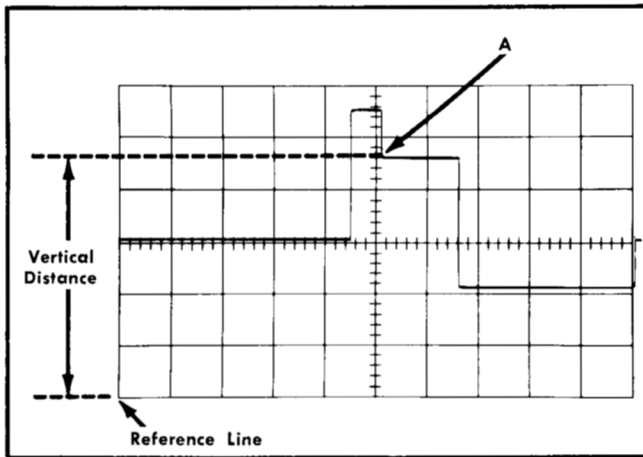

Fig. 2-15. Measuring instantaneous dc voltage with respect to a reference.
9. Measure the distance in divisions between the reference line and the point on the waveform in which the dc level is to be measured. For example, in Fig. 2-15 the measurement is made between the reference line and point A.
Example. Assume that the vertical distance measured is 4.6 divisions (see Fig. 2-15), the waveform is above the reference line, using a 10× attenuator probe and a VOLTS/DIV setting of 2.